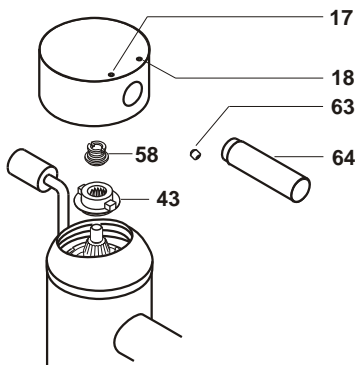

Figure 10
The handle locates on the drive insert (43) and is tightened to the retaining nut (58) with the grub screw (63). To remove the handle unscrew the lever (64) - it should only be hand tight - to gain access to the lever fixation grub screw (63). This should be unscrewed using a 3mm A/F Allen key and the handle will pull off. (Figure 10)